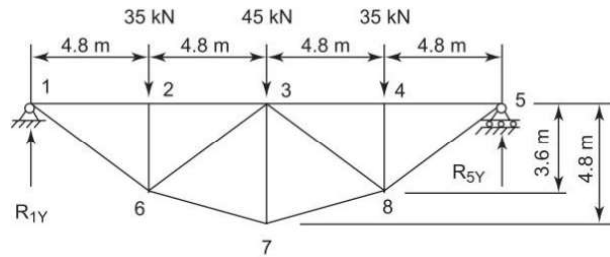

Fig. 6.
6. a) Using method of joints, find the forces in members of the truss shown in Fig. 6. [7M]